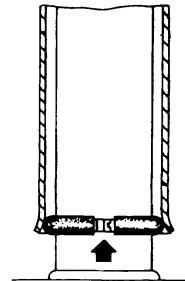

Fig 1
- Push the ring, as shown in figure 1, up to under the outer cover of the cylinder and tighten the clamp slightly so that the ring does not slip any more.